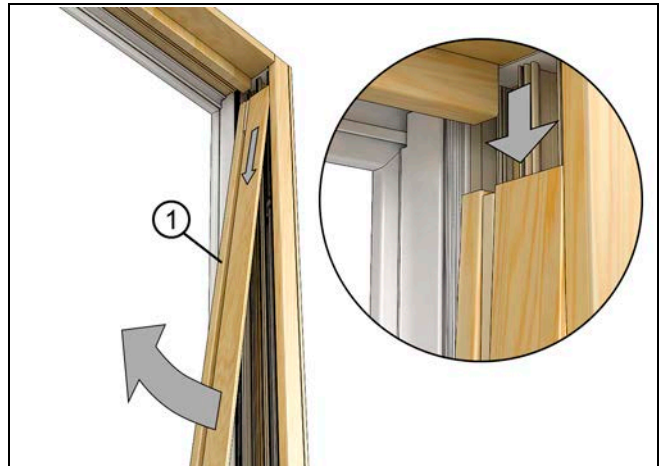

Figure 34
3. Once cover is released, carefully pull down on it to remove it from the head jamb parting stop. See Figure 34.